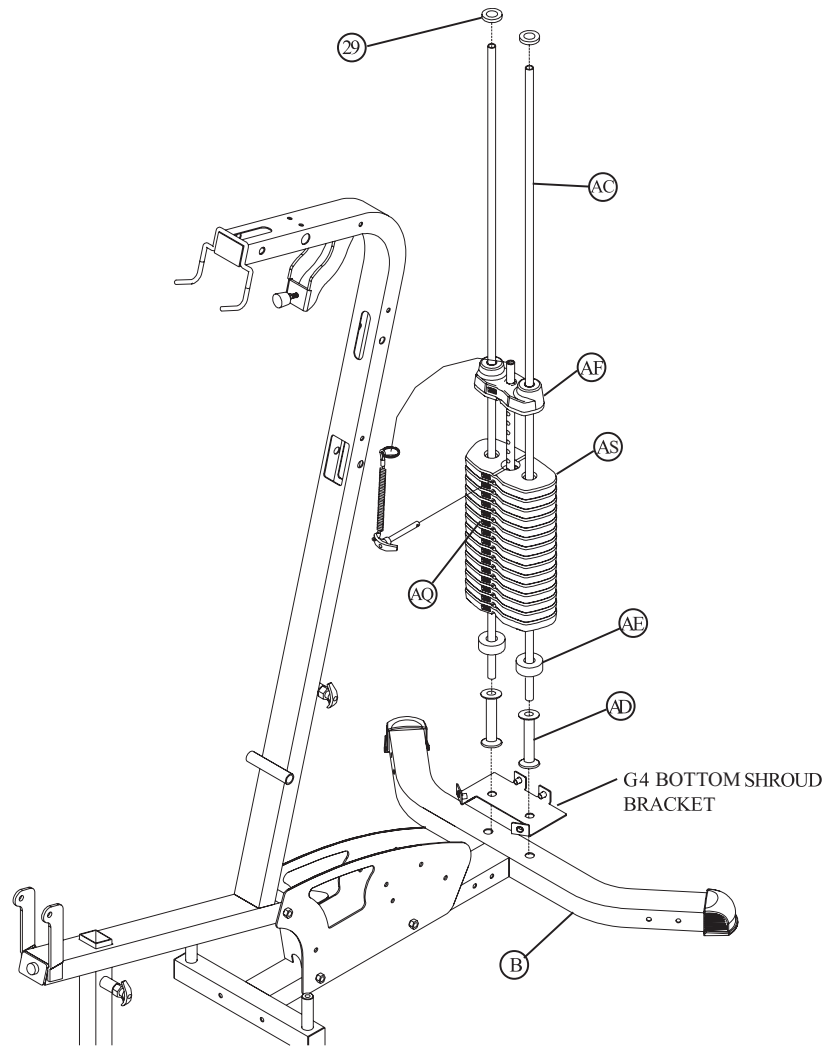

FIGURE 4
- Place the GUIDE RODS (AC) through the BOTTOM SHROUD BRACKET and into the BASE FRAME (B) as shown in FIGURE 4.
- **Note: Lubricate the GUIDE RODS (AC) with the included silicon package.**
- Slide two WEIGHT STACK SPACERS (AD) and two WEIGHT STACK CUSHIONS (AE) down over the GUIDE RODS (AC).
- Using **EXTREME CARE** slide all fifteen WEIGHT PLATES (AS) down over the GUIDE RODS (AC) on to the WEIGHT STACK CUSHIONS (AE). Make sure that the WEIGHT PLATES (AS) are all facing as shown.
- Slide the HEAD PLATE (AF) down over the GUIDE RODS (AC) onto the weight stack.
- Slide two SHAFT COLLARS (29) over the GUIDE RODS (AC) as shown in FIGURE 4.
- Apply WEIGHT STACK LABELS (AQ) to the WEIGHT PLATES (AS) and the HEAD PLATE (AF) as shown in FIGURE 4. Begin with number one at the HEAD PLATE (AF) with larger numbers in consecutive order towards the bottom of the weight stack.